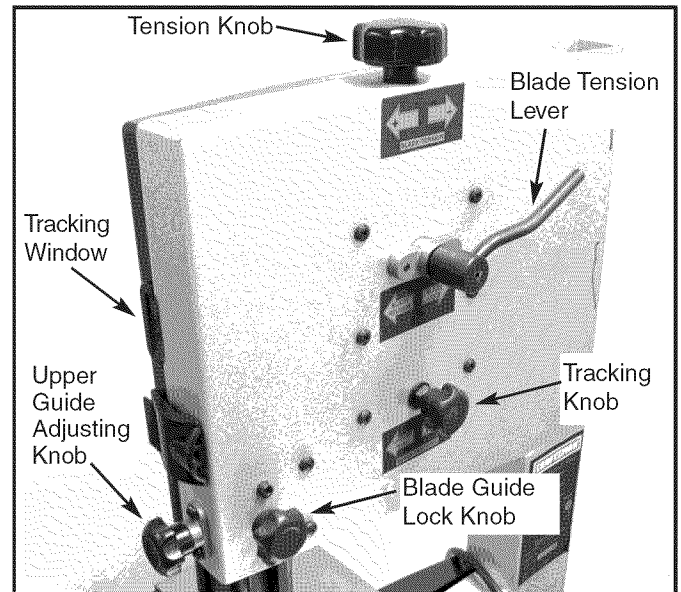

Figure 5 - Blade Tensioning Lever
- Turn blade tension lever on the back of the tool counterclockwise all the way until it locks in position to release blade tension (see Figure 5).
- Tension blade by turning blade tensioning lever clockwise, as far as it will go (see Figure 5). This is a spring loaded, tensioning mechanism and it will automatically apply required tension to the blade.
Refer to Figures 5 and 11.